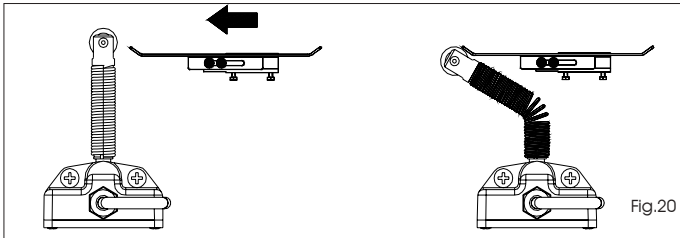

Fig.20
a) The plate must activate the limit-switch on the profiled part as shown in figure 20.